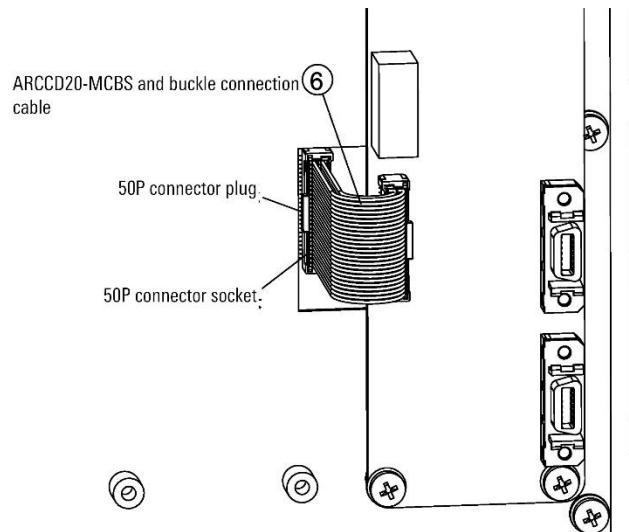

Figure 18-41 MCB and MCB-IEB connection
Step4. Connect the ARCCD20-MCBS and 50P connector plugs at both ends of the gusset cable to the 50P connector receptacle on the MCB and MCB-IEB respectively, refer to Figure 18-41.